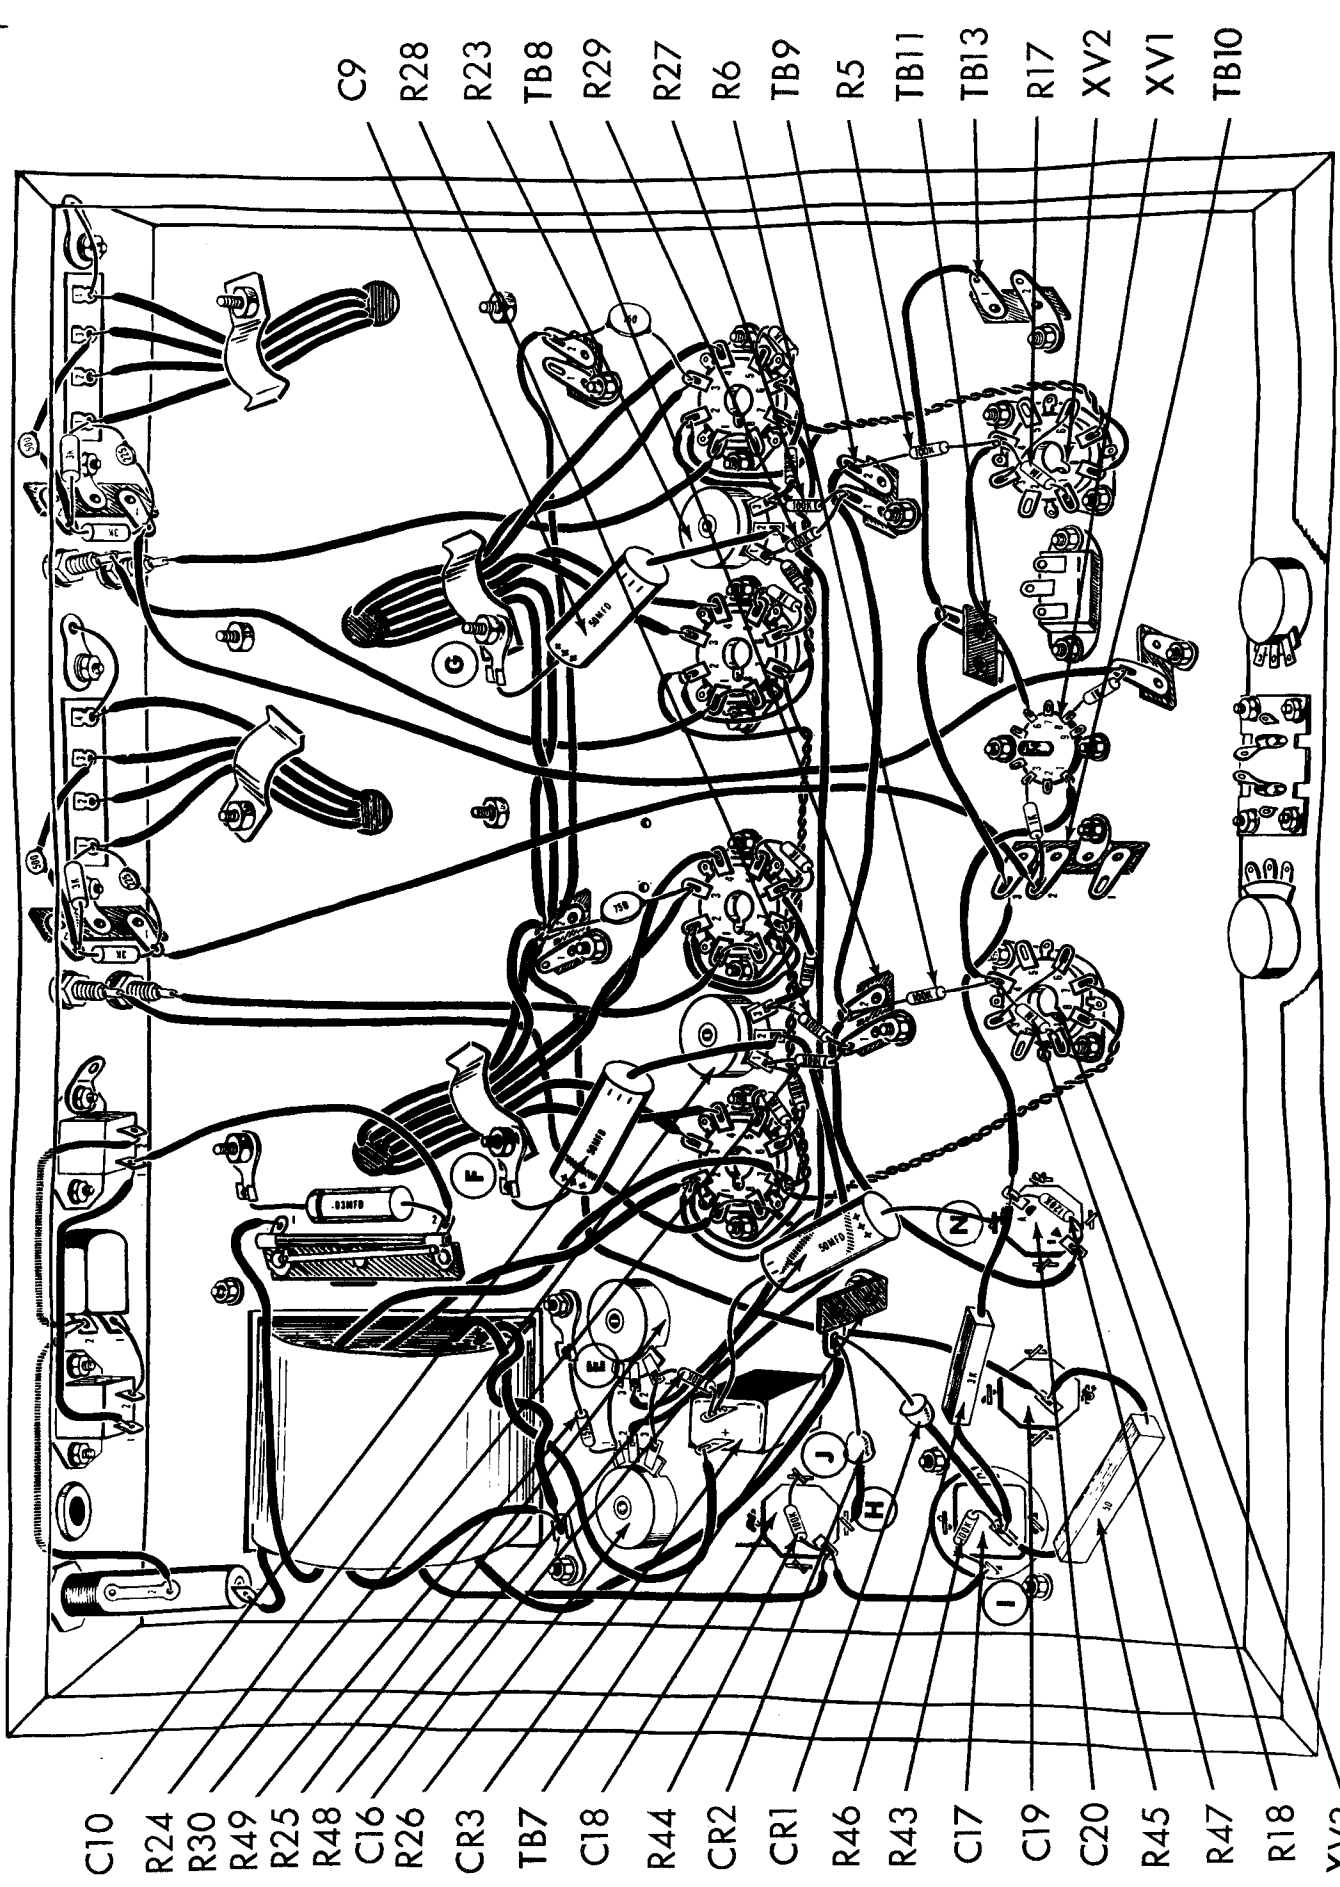

Fig. 5
- () 1. Fig. 5. Cut all leads on three 50mf, 150 volts electrolytic capacitors, C9, C10 and C16 to 1 1/2". Cover each lead with a 1 1/4" piece of spaghetti. Connect the positive (+) lead on C16 to ground lug "N" (S1) at C20 and the negative (-) lead to CR3-2 (C). Connect the positive (+) lead on C9 to ground lug "G" (S1) and the negative lead to R23-2 (S2). Connect the positive (+) lead on C10 to ground lug "F" (S1) and the negative (-) lead to R24-2 (S2).
- () 2. Fig. 5. Connect a 7" piece of orange wire from TB8-2 (C) to TB9-2 (C).
- () 3. Fig. 5. Cut all leads on four 100K 5% (brown, black, yellow, gold) resistors, R27, R28, R29 and R30, to 3/4". Connect R27 from R23-3 (S2) to TB9-1 (C). Connect R29 from R23-1 (S2) to TB9-1 (C). Connect R28 from R24-3 (S2) to TB8-1 (C). Connect R30 from R24-1 (S2) to TB8-1 (C).
- () 4. Fig. 5. Connect a 3" piece of red wire from C17 (C) to lug "I" (C) at C18.
- () 5. Fig. 5. Cut all leads on two 100K 10% (brown, black, yellow, silver) resistors, R43 and R44, to 1/2". Connect R43 from C17 (C) to lug "I" (S2) at C17. Do not short lug to chassis ground. Connect R44 from C18 (S3) to lug "J" (S1) at C18.
- () 6. Fig. 5. Cut both leads on a 50Ω 10 watt wire wound resistor R45, to 1 1/4". Cover each lead with a 1" piece of spaghetti. Connect from C17 (C) to C19 (S2).
- () 7. Fig. 5. Cut both leads on a 3000Ω, 5 watt, wire wound resistor, R46, to 1 1/2". Cover each lead with a 1 1/4" piece of spaghetti. Connect from C17 (C) to C20-A (C).
- () 8. Fig. 5. Connect a 5" piece of red wire from C20-A (C) to TB10-3 (C).
- () 9. Fig. 5. Connect a 4" piece of red wire from TB10-3 (C) to TB11 (C).
- () 10. Fig. 5. Connect a 4" piece of red wire from TB11 (C) to TB13-1 (C).
- () 11. Fig. 5. You have been supplied in your kit with two silicon rectifiers, CR1 and CR2. Note that excessive heat on the leads of these rectifiers can ruin them. When you solder be careful not to apply any excessive heat to the junctions.
- () 12. Fig. 5. Connect a 1 1/4" piece of bare wire from R26-3 (S1) to R25-1 (C).
- () 13. Fig. 5. Connect a 1 1/4" piece of bare wire from R26-1 (C) to R25-3 (S1).
- () 14. Fig. 5. Cut both leads on a 10K (brown, black, orange, silver) resistor R48, to 3/4". Connect from CR3-2 (S2) to R25-1 (S2).
- () 15. Fig. 5. Cut both leads on a 15K (brown, green, orange, silver) resistor R49, to 3/4". Connect from R26-1 (S2) to ground lug "E" (S1).
- () 16. Fig. 5. Cut both leads on a 120K (brown, red, yellow, silver) resistor R47, to 1/2". Connect from C20-B (S2) to C20-A (C).
- () 17. Fig. 5. Cut all leads on two 100K 5% (brown, black, yellow, gold) resistors, R5 and R6, to 3/4". Connect R5 from XV2-4 (C) to TB9-2 (S2). Connect R6 from XV3-4 (C) to TB8-2 (S3).
- () 18. Fig. 5. Connect a 1 1/2" piece of bare wire from XV2-3 (C) to XV2-6 (S1).
- () 19. Fig. 5. Connect a 4" piece of green wire from XV1-6 (S1) to XV2-4 (C).
- () 20. Fig. 5. Connect a 1 1/2" piece of bare wire from XV3-3 (C) to XV3-6 (S1).
- () 21. Fig. 5. Cut all leads on two 1 meg (brown, black, green, silver) resistors, R17 and R18, to 1/2". Connect R17 from XV2-1 (C) to XV2-4 (S3). Connect R18 from XV3-1 (C) to XV3-4 (S3).